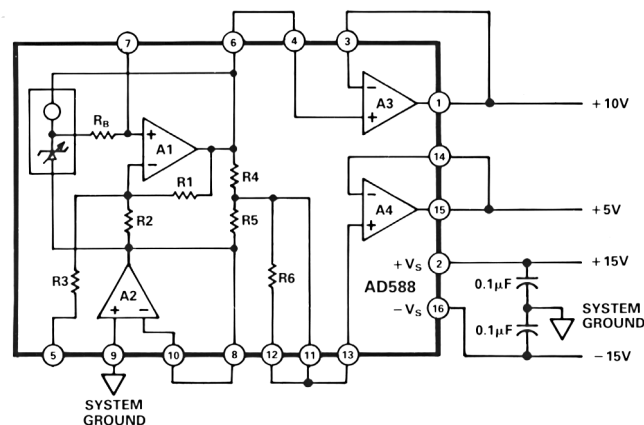
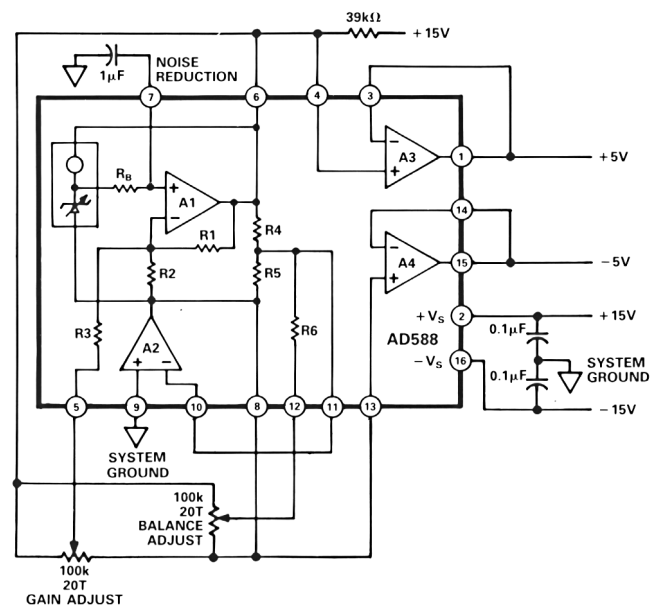
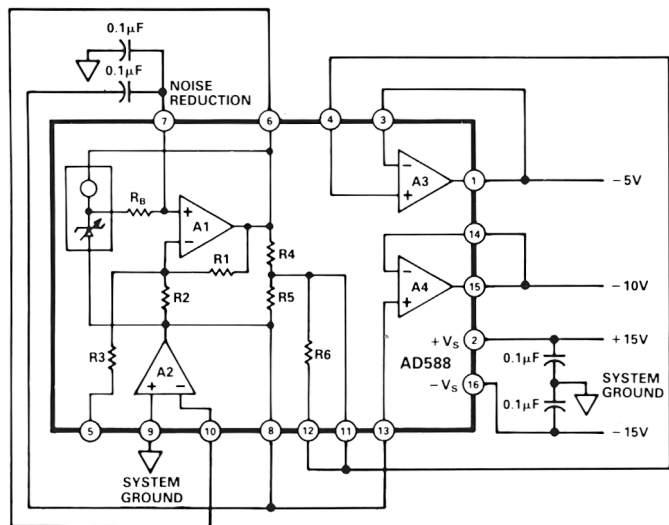

Figure 2a. +10 V Output
Figure 2b. +5 V and -5 V Outputs
Figure 2c. -10 V Output
+10 V Configuration Figure 2a
-10 V Configuration Figure 2c
+5 V, -5 V,  $\pm 5$  V Configuration Figure 2b
The AD588 can be configured to provide +10 V and -10 V reference outputs as shown in Figures 2a and 2c respectively. It can also be used to provide +5 V, -5 V or a  $\pm 5$  V tracking reference as shown in Figure 2b. Table I details the appropriate pin connections for each output range. In each case, Pin 9 is connected to system ground and power is applied to Pins 2 and 16.
As indicated in Table I, a +5 V buffered output can be provided using amplifier A4 in the +10 V configuration (Figure 2a). A -5 V buffered output can be provided using amplifier A3 in the -10 V configuration (Figure 2c). Specifications are not guaranteed for the +5 V or -5 V outputs in these configurations. Performance will be similar to that specified for the +10 V or -10 V outputs.
Figure 2b shows GAIN and BALANCE trims in a +5 V and -5 V tracking configuration. A 100 k $\Omega$  20-turn potentiometer is used for each trim. The potentiometer for GAIN trim is connected between Pins 6 ( $V_{HIGH}$ ) and 8 ( $V_{LOW}$ ) with the wiper connected to Pin 5 (GAIN ADJ). The potentiometer is adjusted to produce exactly 10 V between Pins 1 and 15, the amplifier outputs. The BALANCE potentiometer, also connected between Pins 6 and 8 with the wiper to Pin 12 (BAL ADJ), is then adjusted to center the span from +5 V to -5 V.
If further noise reduction is desired, an optional capacitor may be added between the NOISE REDUCTION pin and ground as shown in Figure 2b. This will form a low-pass filter with the  $4 \text{ k}\Omega$   $R_B$  on the output of the Zener cell. A  $1 \mu\text{F}$  capacitor will have a 3 dB point at 40 Hz and will reduce the high frequency (to 1 MHz) noise to about  $200 \mu\text{V}$  p-p. Figure 4 shows the 1 MHz noise of a typical AD588 both with and without a  $1 \mu\text{F}$  capacitor.
Note that a second capacitor is needed in order to implement the NOISE REDUCTION feature when using the AD588 in the -10 V mode (Figure 2c.). The NOISE REDUCTION capacitor is limited to  $0.1 \mu\text{F}$  maximum in this mode.